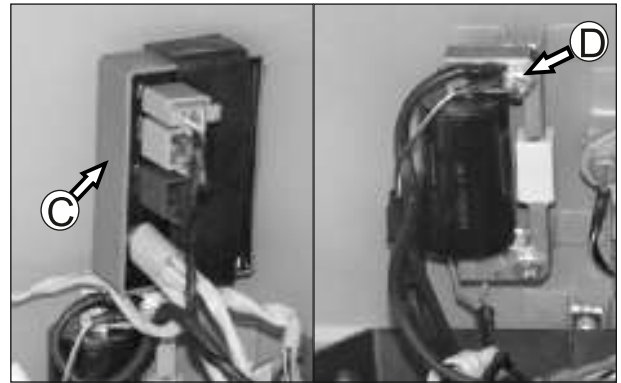

Fig. 5.100
- Pull out the TCI unit (C) from the mounting on cabin. (Fig. 5.100)
- Loosen and remove 1 no. hexagonal screw (M6x16) (D) from ignition coil assembly top mounting and separate the earth cables. (Fig. 5.100)